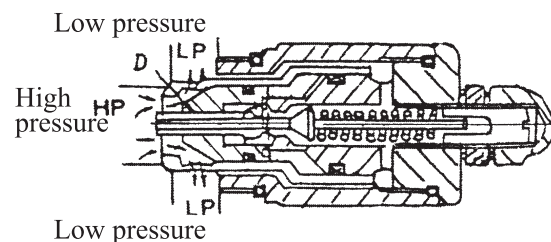

Fig. 7-8
(4) As compared to the pressure at the cylinder port “HP” side, the inner pressure becomes unbalanced, causing the relief valve poppet “D” to open and thereby sending the oil directly to the low-pressure passage “LP”. (See Fig. 7-8)